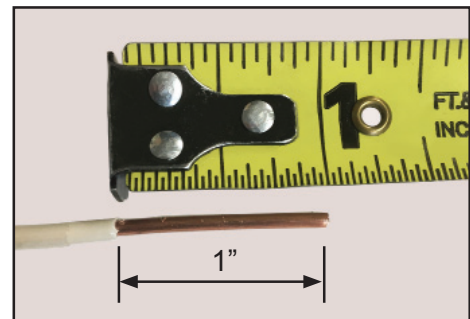

Figure 2
6. Remove the wire nut from the wire assembly. Untwist the wires to separate them, and trim the ends of the wires if necessary. Referring to Figure 2, strip back 1" of jacket insulation from the wire, using care to avoid damaging any of the conductor. Repeat for the second and/or third wire in the assembly.